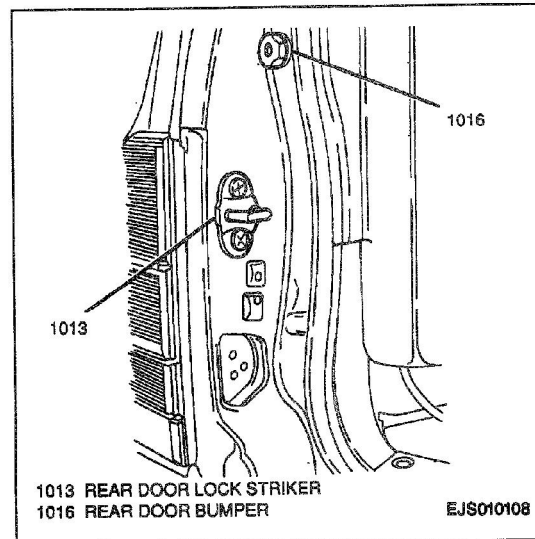

Figure 10—Rear Door Lock Striker
2. Two screws and lock striker from rear door jamb (Figure 10).
1. Lock striker to rear door jamb; secure with two screws (Figure 10).